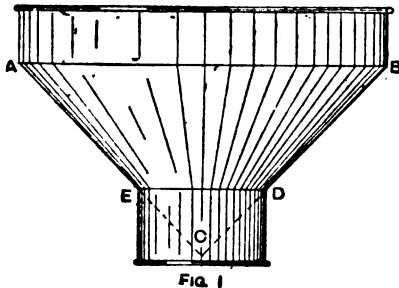

FIG. 1
**Milk Sieve.**—Fig. 1 shows a milk sieve made of tin plate with a brass gauze bottom. Such sieves are usually in three sizes, viz. "single," "middle," and "double," and the sheets from which they are cut are respectively 14 in. by 10 in., 15 in. by 11 in., and 17 in. by 12 in. In the pattern (Fig. 2) for the body, the radii  $CD$  and  $CE$  are equal respectively to  $CD$  and  $CE$  (Fig. 1), while the arc  $BA$  (Fig. 2) equals 3 times  $AB$  (Fig. 1). The plan adopted by many workers of marking out Fig. 2 for any of the above-mentioned stock sizes is to treat half the length of the sheet as the radius for the larger arc, while the radius for the smaller arc is practically three-quarters that of the required size when finished. Working edges are, of course, additional, and should be allowed accordingly. Notch the pattern for a grooved seam, pass it several times through the rollers to "break" the metal, set off the working edges on  $BD$  and  $AE$  in opposite directions, bend to shape, and groove the seam on a suitable stake. Solder the seam inside, set off both the larger diameter and, in an outward direction, a creased edge to take the top rim, and set off the other edge on the smaller end, inwardly, for the gauze bottom to rest on. The top rim is next made, and it is cut so that its length is 3 times  $AB$  (Fig. 1), plus lap for the seam, and it is equal in width to the proposed depth of rim, plus allowance for a wiring edge. This rim can be either beaten up or